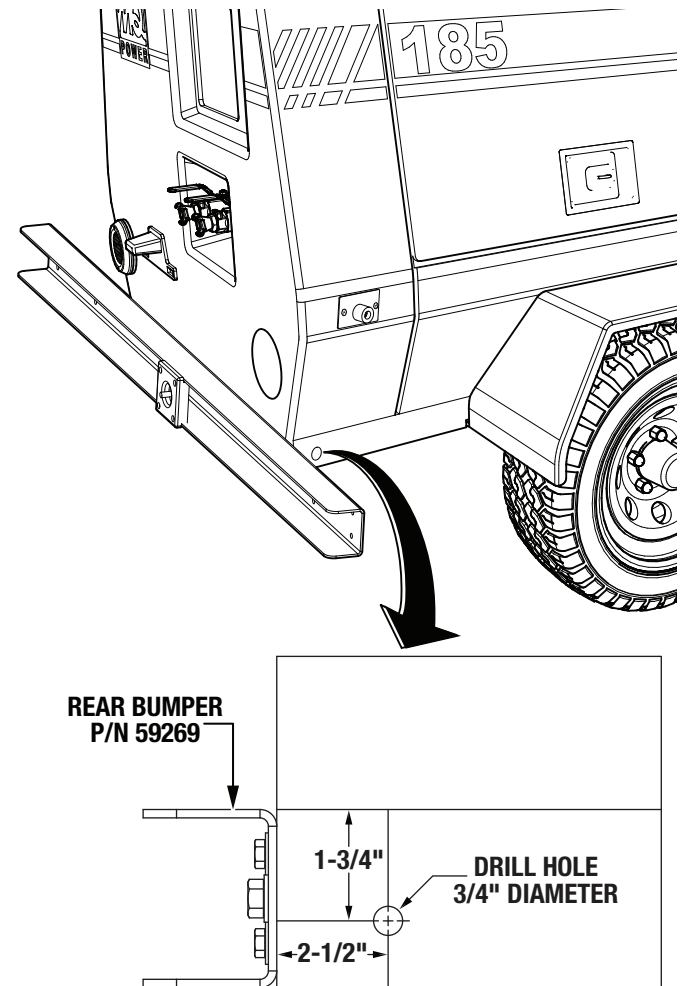

Figure 13. Drill Wiring Harness Hole
1. On the fuel tank side of the air compressor, drill a 3/4-inch hole into the side of the rear frame as shown in Figure 13.